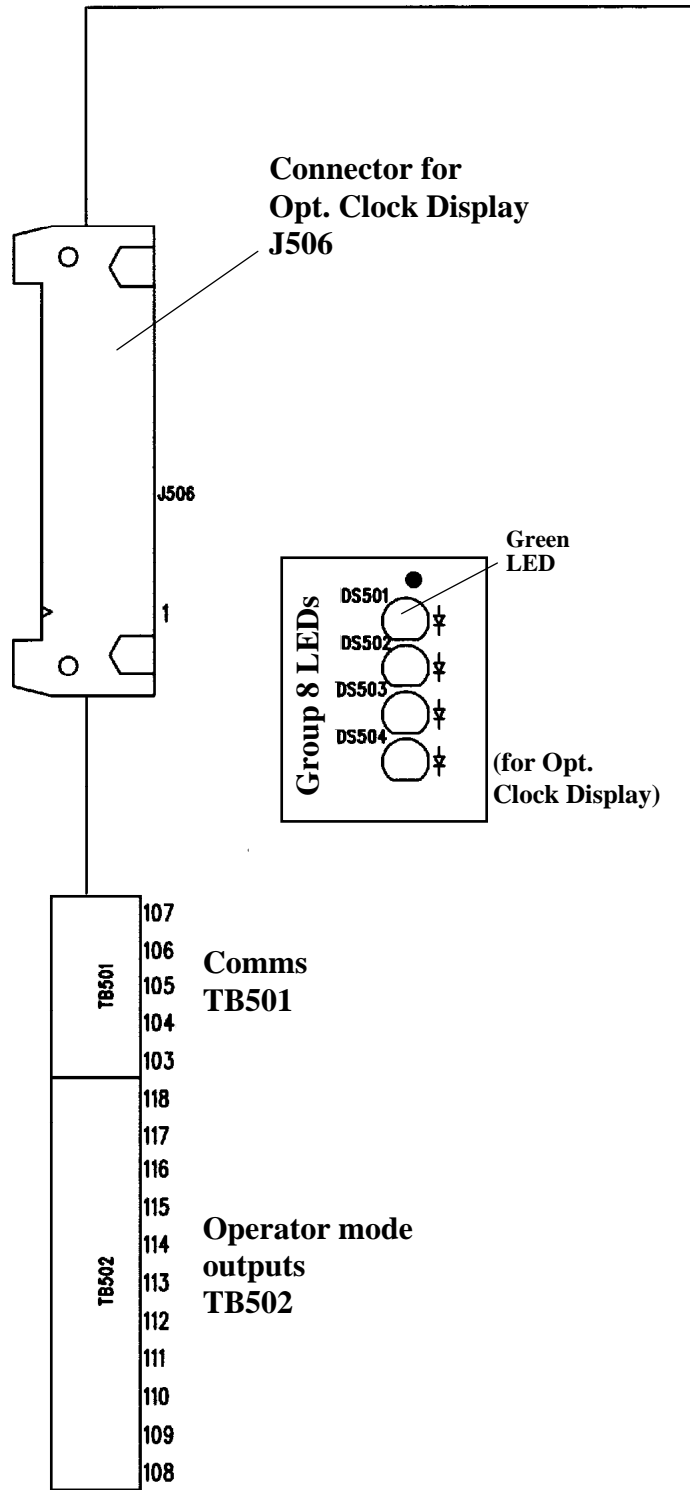

Figure 2-6c. WPC serial interface board layout - important components shown and labeled
1. Locate TB104 on the SmartPAC board and TB501 on the WPC Interface Board. See Figure 1 at the end of this manual for wiring and Figure 2-6c earlier in this chapter for the board layout.